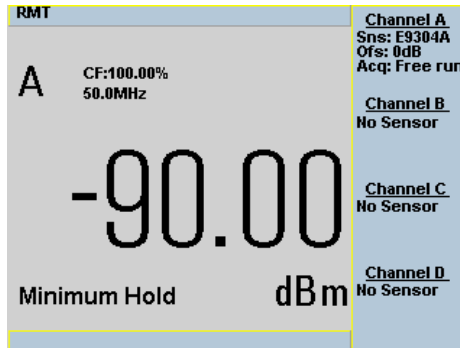

Figure 2-31 Measurement mode in full word
- 6 Press  to display the measurement window in full screen mode. The measurement mode will be indicated in full word in the expanded window (see Figure 2-31).